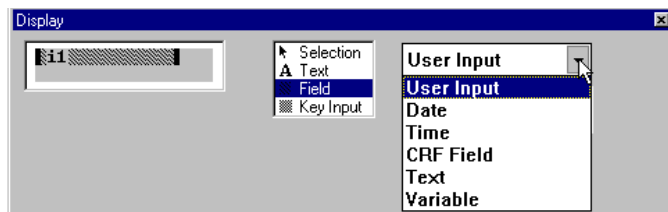

Figure 2-52 Display - Field Pop-up Menu
- To change the type of data the field object displays, click the pop-up menu indicator next to **User Input**, to display the **Field** pop-up menu (Figure 2-52).